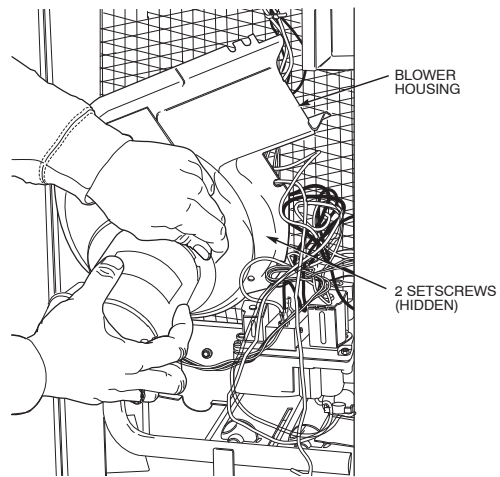

Fig. 19 - Removal of Induced-Draft Blower Assembly
3. Slide the assembly out of the unit. (See Fig. 19). Clean the blower wheel. If additional cleaning is required, continue with Steps 4 and 5.